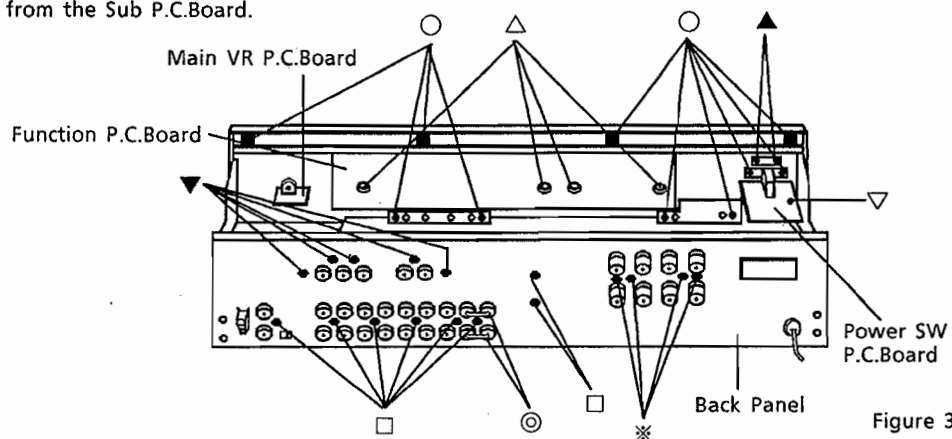

Figure 3
- (1) Remove six screws marked "△" and "▲" as shown in Figure 3.
- (2) Disconnect all wires from the Main P.C.Board, Sub P.C.Board and Main VR P.C.Board.
- (1) Remove one screw marked "▽" as shown in Figure 3.
- (2) Disconnect all wires from the Power SW P.C.Board.
- (1) Remove four screws marked "※" as shown in Figure 3.
- (2) Disconnect all wires from the SP Terminal P.C.Board.
- (1) Remove two Jumper pins marked "◎" as shown in Figure 3.
- (1) Remove five screws marked "▼" as shown in Figure 3.
- (2) Disconnect all wires from the Video P.C.Board.